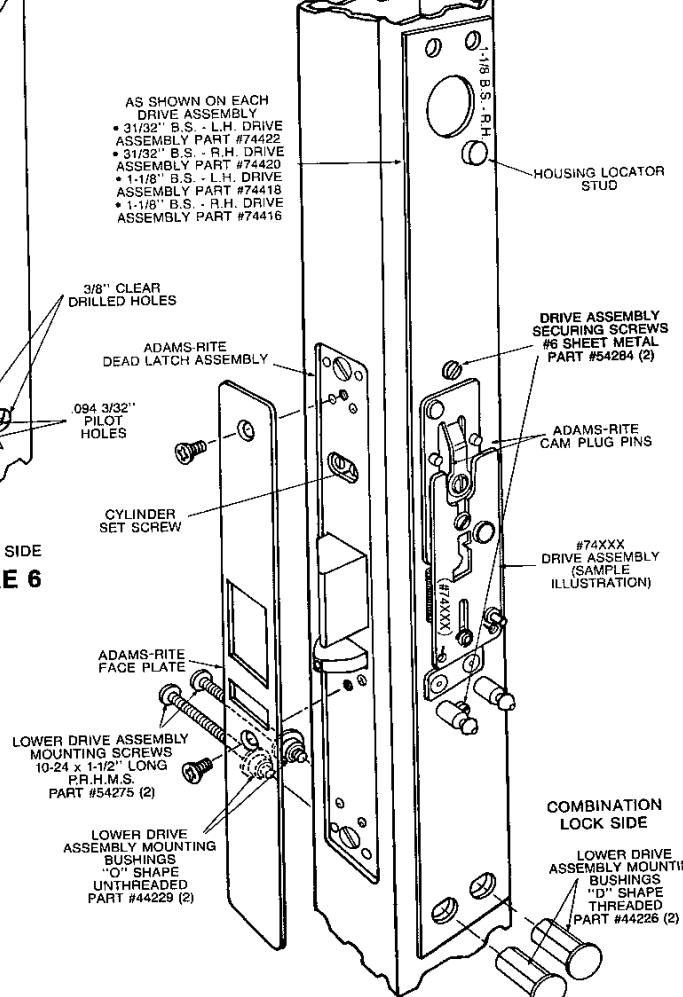

FIGURE 7
Step 14: (Figures 7 and 4)
*Locate the drive assembly on lock side of door over the pins on the Adams-Rite cam plug. Secure lower portion of drive assembly using two drive assembly mounting bushings "D" shape threaded (part #44226), two drive assembly mounting bushings "O" shape unthreaded (part #44229) and two drive assembly mounting screws 10-24 thd. x 1-3/4" long. P.R.H.M.S. (See Fig. 7 for location of screws and bushings.) After securing lower drive assembly mounting bushings to stile, apply hand pressure to upper portion of drive assembly flush to stile while drilling two (1/8") holes to accept drive assembly securing screws (#6 sheet metal) (part #54284) (2). (See Fig. 7), drive assembly must always be parallel to stile. Note: Drilling of holes is not necessary for wood door installations. Tighten the cylinder set screw. (See Step 4) Make sure the drive moves freely up and down when holding Adams-Rite latch depressed. Drive should return freely to original position without the help of the Adams-Rite latch spring.